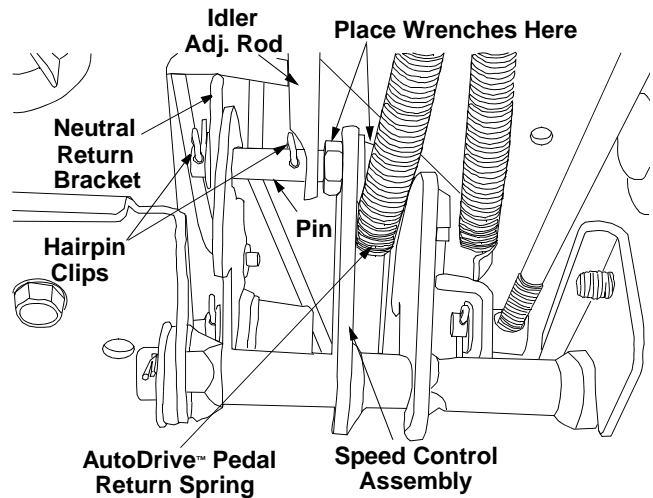

Figure 17
1. Locate the speed control assembly on the underside of the steering support bracket. See Figure 17.
2. Remove both hairpin clips from the pin which is fastened to the speed control assembly (be careful not to lose the small flat washers found on the pin). See Figure 17.
4. Using two 9/16" wrenches, remove the pin from the speed control assembly. See Figure 17.